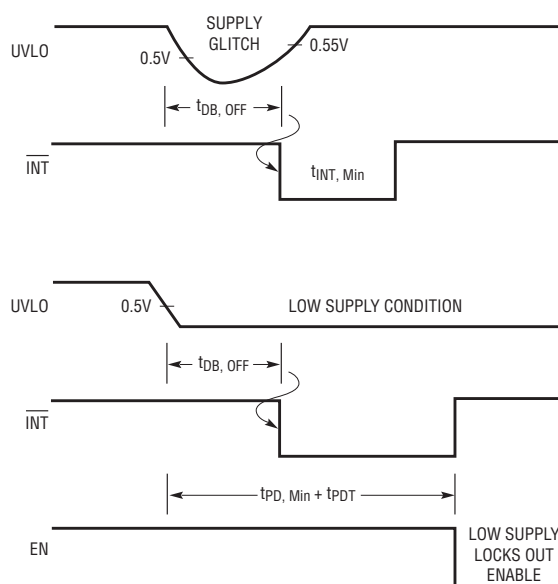

Figure 6. Low supply initiates system power down and locks out enable
5.4V for an indefinite length of time, the LTC2953 automatically shuts off system power. See the Figure 6 timing diagram.
supply drops below a predetermined adjustable level, the LTC2953 does not allow system power on (see Figure 6 timing diagram).